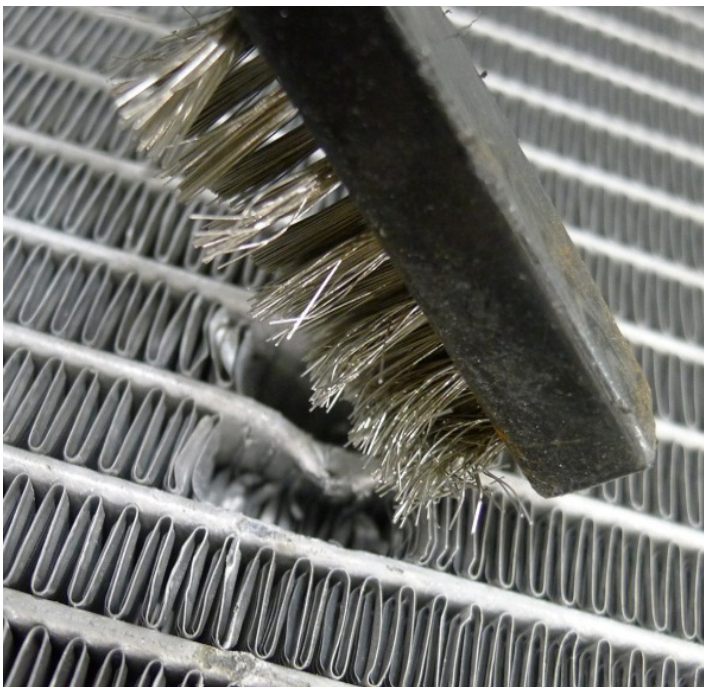

Figure 5. Micro-Channel Preparation
2. After the fins have been removed, clean the area with a stainless steel brush in preparation for brazing as shown in Figure 5.